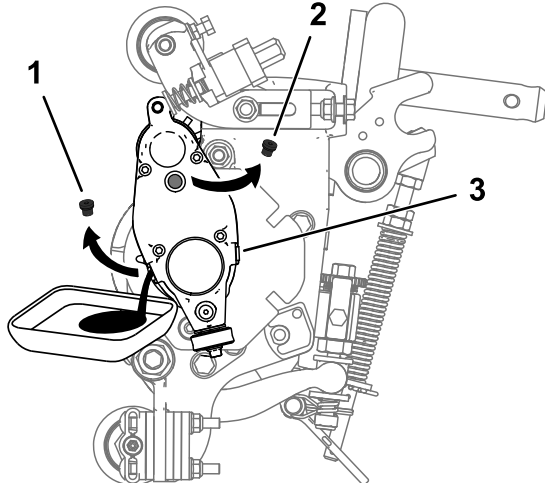

Figure 26
5. Tip the cutting unit back onto the kickstand until the drain port is at the bottom to ensure complete drainage (Figure 26).